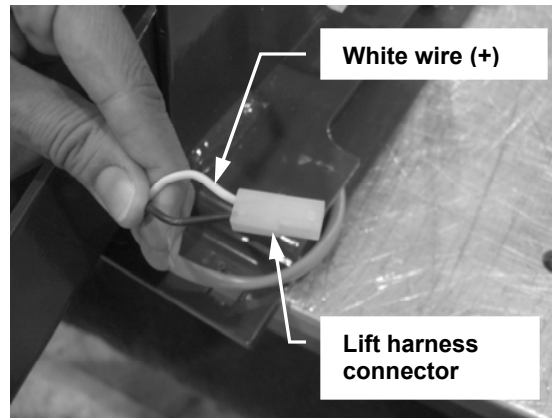

FIGURE 3
2. Locate white wire (+) on lift harness. Refer to Figure 3.